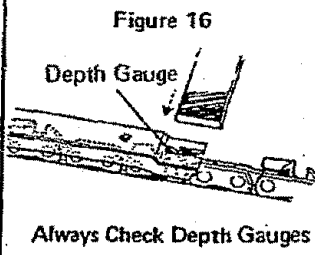

Figure 16
9. Always check the depth gauge with the depth gauge filing guide after filing. If the depth gauge sticks out, file it off with a flat file, Figure 16.